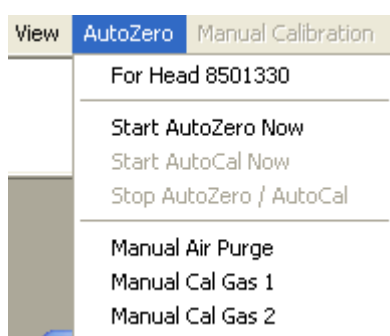

Figure 6-1: Selection of Auto Zero and Manual Air
4. From the AUTOZERO menu (see *figure 6-1*) select MAN CAL GAS 1, open gas regulator and set pressure to approx. 1.9 bar(g) (27psig).
10. Select MANUAL AIR PURGE from the AUTOZERO menu (see *Figure 6-1*).
16. Select MANUAL AIR PURGE from the AUTOZERO menu (see Figure 6-1).